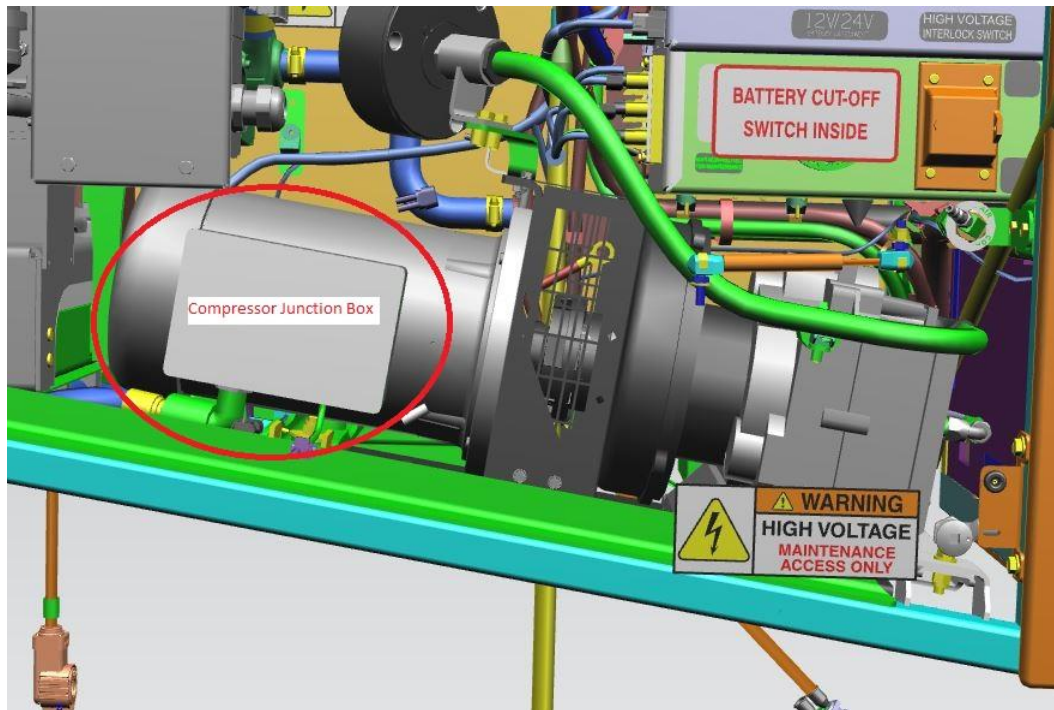

Figure 2: Air Compressor Junction Box Location
8. Remove the front face plate of the air compressor junction box circled in Figure 2 above.